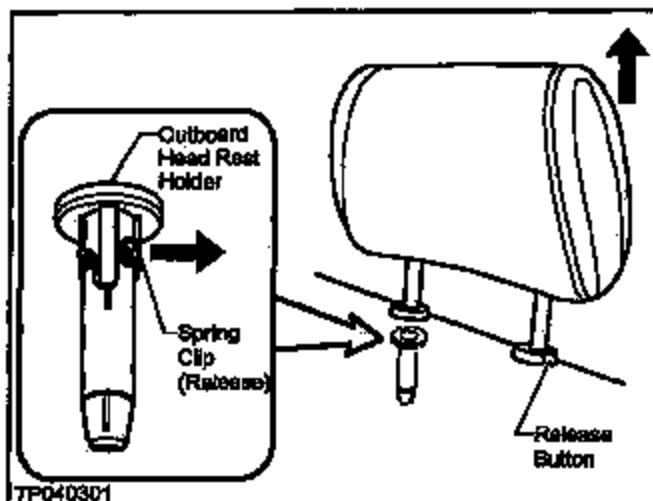

Figure 3
- a. Release the Spring Clip on the outboard Head Rest Holder (see Figure 3).